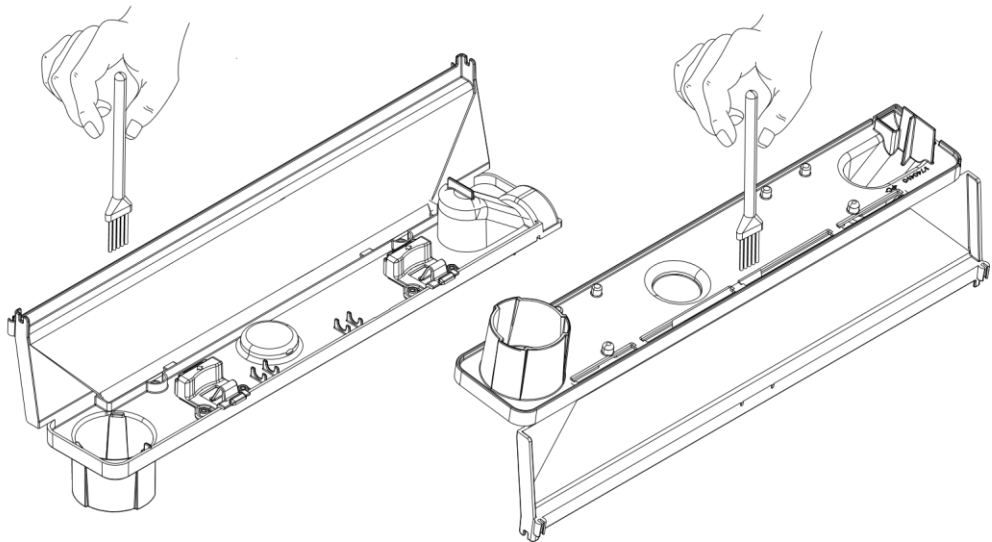

Fig 9
2. Gently slide the air filter upwards out of its plastic holder. (See Fig.9)